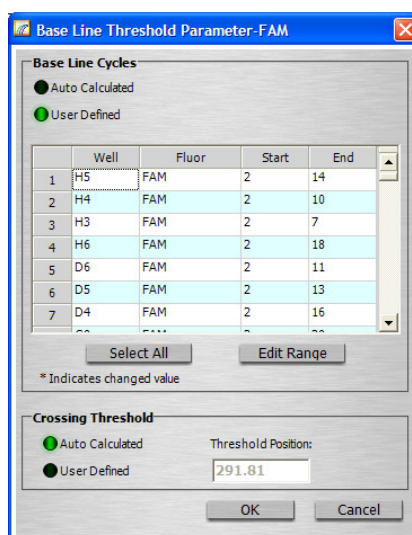

Fig. 6.15. The Base Line Threshold Parameter Window.
4. Select **User Defined**. In Figure 6.15, the Base Line Threshold Parameter window shows the FAM traces are to be adjusted.